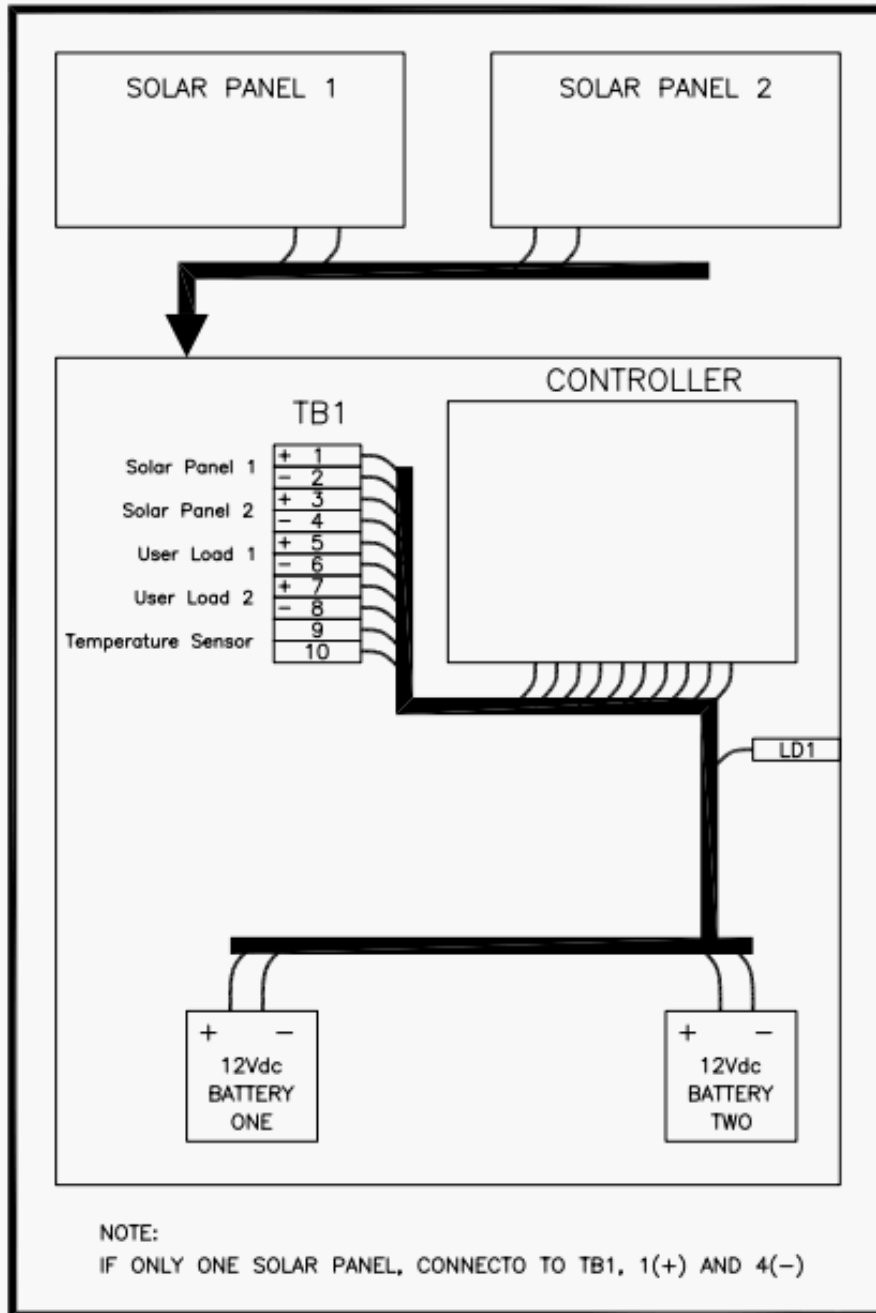

Figure 11
23. Each Battery has a pig-tail wire harness. Connect each battery pig-tail to the Electronic Control Box wire harness mating connector. Also, refer to Figure 11 wiring diagram. Then, connect the output of the Solar Panel to the wires tied to the top of
24. Connect your device to TB1 as shown in Figure 11, where it is designated 'User Load 1'. Connect the Red Positive Wire to User Load 1 '+' (TB1-5) and the Black Negative Wire to User Load 1 '-' (TB1-6). **Note: ensure that the rating of your 'device' matches the electrical rating of the Solar Panel System – for example, if the Solar Panel System's rating is '24Vdc, ensure that your device can accept an input of 24Vdc Battery Voltage Input.**